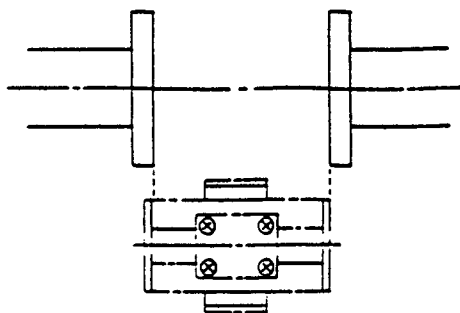

Figure 5-8
- o Do not forcibly insert the detector in an insufficient face-to-face space of piping. (Refer to Figure 5-8)